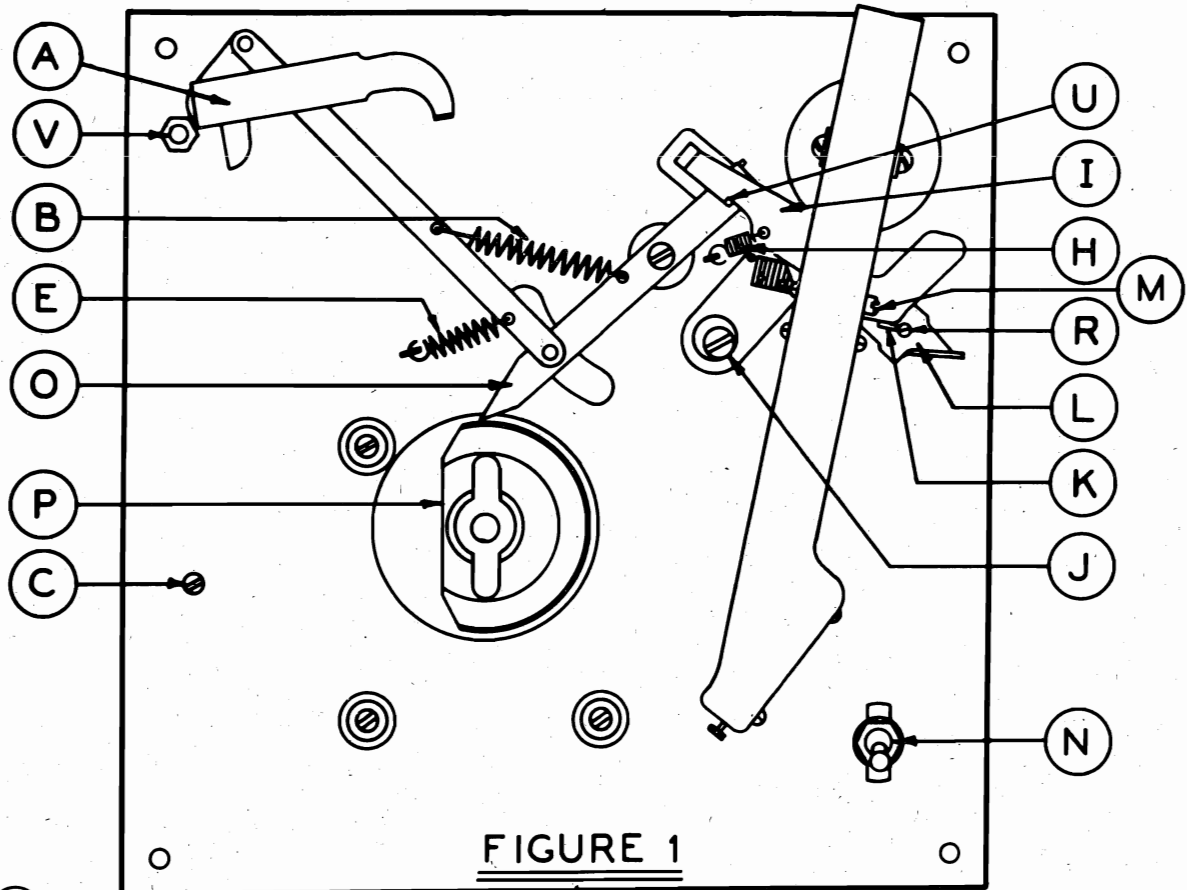
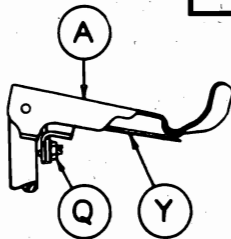

FIGURE 1
FIGURE 3
To load the mechanism lift the record removing arm at (A) Fig. 1 to the upright position. To adjust the pickup to play 10" records, automatically, push the pickup stop at (K) Fig. 1 back away from the pickup. To play 12" records manually, pull the stop forward toward the needle as far as it will go. Place records on turntable. Throw switch at (N) Fig. 1 to the "On" position. Mechanism will now operate and reject each record after it has been played through. To reject a record and play the next record below it, pull the latch lever at (L) Fig. 1 forward.
To operate the mechanism in the manual position, lift the record removing arm at (A) Fig. 1 to the upright position. 10 or 12" records can then be played by the position of the pickup stop at (K) Fig. 1. To play 10" records manually, push the pickup stop at (K) Fig. 1 back away from the pickup needle. For 12" records, pull the stop forward toward the needle as far as it will go.
The motor speed is adjusted by means of a slotted post (C) 3 Fig. 1 which is located under the turntable. To change motor speed rotate this post slightly by means of a screw driver.
The trip mechanism is the trigger that sets the Record Changer in motion. This is done by allowing the latch bar at (O) Fig. 1 to drop in front of, and be actuated by the cam at (P) Fig. 1. This cam is driven by the motor and is in motion as long as the motor is running. If this mechanism does not operate smoothly, the precautions outlined in succeeding paragraphs should be observed.
First of all, make sure that the square pin in the latch lever at (U) Fig. 1 latches properly in the notch in the lift lever at (1) Fig. 1. When latched, the notch should be engaged approximately one-half of its depth. The depth of engagement is adjusted by means of the eccentric washer and locking screw at (J) Fig. 1. Now run the record changer through its cycle. If the square pin fails to engage the notch in the lift lever, first check the tension of the latch spring at (H) Fig. 1 to insure that the notch can engage the pin. Next check the tension of the reset spring at (E) Fig. 1. This reset spring should not be under tension when the latch bar is latched but should have enough tension when the latch bar drops back off of the cam to cause the square pin to over travel the notch in the lift lever.
The oval head pivot screw at (R) Fig. 1 serves as a pivot for the lift lever at (1) Fig. 1. This screw should allow the lift lever to be raised by the latch bar to its maximum height without binding but also without any additional play.
If the Record Changer fails to trip, see if the phonograph needle is jumping out of a worn record trip groove. Next make certain that all parts of the mechanism work freely and smoothly. If it is found that the latch bar at (O) Fig. 1 is not dropping in far enough to engage the cam at (P) Fig. 1 then check the tension of the trip spring at (B) Fig. 1.
In case the Record Removing Mechanism fails to operate smoothly, proceed as follows: First make certain that all parts work freely with no binding in pivots or bearings, and that the record removing arm assembly rests on the stop screw at (Q) Fig. 3. Next stop the motor in such a position that the latch bar at (O) Fig. 1 can swing by and clear the cam at (P) Fig. 1. Place just one record on the turntable and measure from the top of this record down to the base plate. This distance should be one inch. Now by pulling the reject lever at (L) Fig. 1 first, it will be found possible to swing the record removing finger at (Y) Fig. 3 over to where it just touches the edge of the record. If the adjustment is correct, the record removing finger should just barely rise over the edge of the first record. If adjustment is required it can be made by means of the stop screw at (Q) Fig. 3. In the event the record removing arm raises the record from the turntable and drops it back in place without removing it, check the lift adjustment at (V) Fig. 1. This adjustment consists of an eccentric stud which is provided with a lock nut, and is made by loosening the lock nut and turning the eccentric stud. The lift adjustment should be set so that the hole in the center of the record just clears turntable spindle when the Record Changer is in operation.